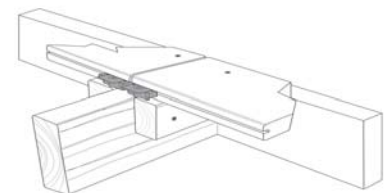

fig 2.
**End-to-end spacing:** Follow the gapping requirements listed in fig. 1. For any decking where two boards meet end-to-end over a joist, add additional blocking (fig. 2 on the following page). Allow 1/4" distance between all decking material and any permanent structure or post. After all of the decking has been attached, snap a chalk line (white or yellow chalk recommended) flush with or up to 1-1/2" out from the deck framing and trim with a circular saw.